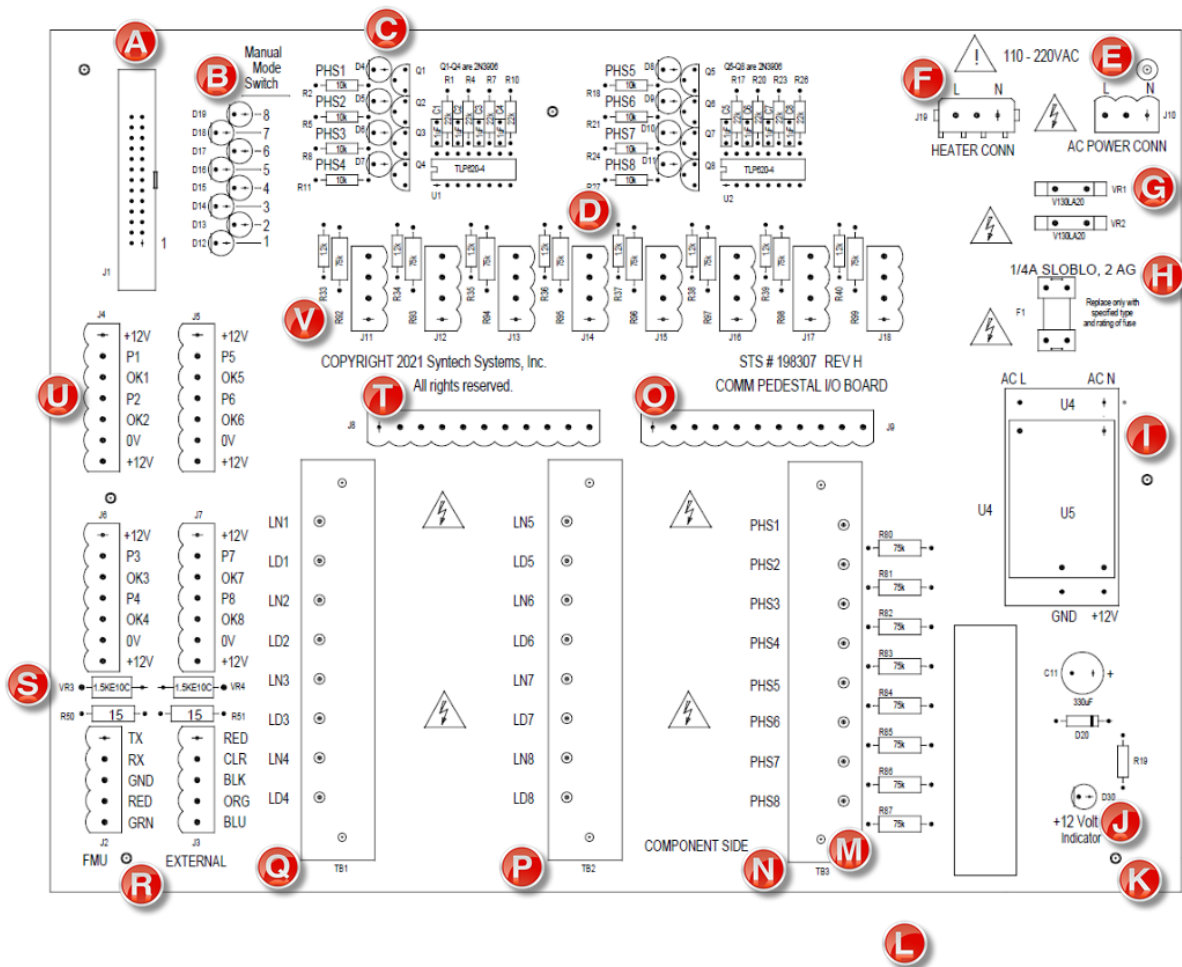

Figure 12 Pedestal I/O Board
Figure 12 displays Pedestal I/O Board connections. Transaction printers are connected via a serial connection with an RS-232 cable. The Transaction printer is only connected to a Master FMU (Legacy FMPlus only) and prints transaction data and messages as they occur. If the on-site FMU configuration includes FMU Satellites (Legacy FMPlus only), all Satellite transactions and messaging is routed to the Master and printed on the Transaction Printer.
Figure 12 for connection points on the Pedestal I/O Board). These procedures only cover dispenser control. Additional connections from the FMU to the dispenser will be required for pulser connections.
Figure 12, Terminal Blocks Q and P. Look for a circuit in the dispensing equipment that may be interrupted by the addition of a switch (i.e., the FMU) to prevent the flow of fuel. Also, there must be a means to control each individual product hose. A dual hose
- Figure 12 (D). Clip one leg of the resistor at R92, so power cannot travel through the resistor. This action transfers pump handle detection from LN1 to PHS1. If only one leg of the resistor is clipped, the resistor may be soldered back in place, if needed.